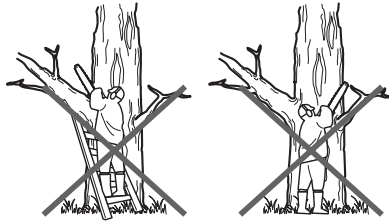

Fig. 22
6. Reset the spiked bumper (5) at a low point when cutting thicker logs by pulling the product slightly backwards until the gripping teeth release, and reposition at lower level to continue sawing. Do not remove the product completely from the wood.
8. Do not operate the product with arms fully extended or attempt to saw areas which are difficult to reach, or on a ladder. Never use the product above shoulder height (Fig. 22).